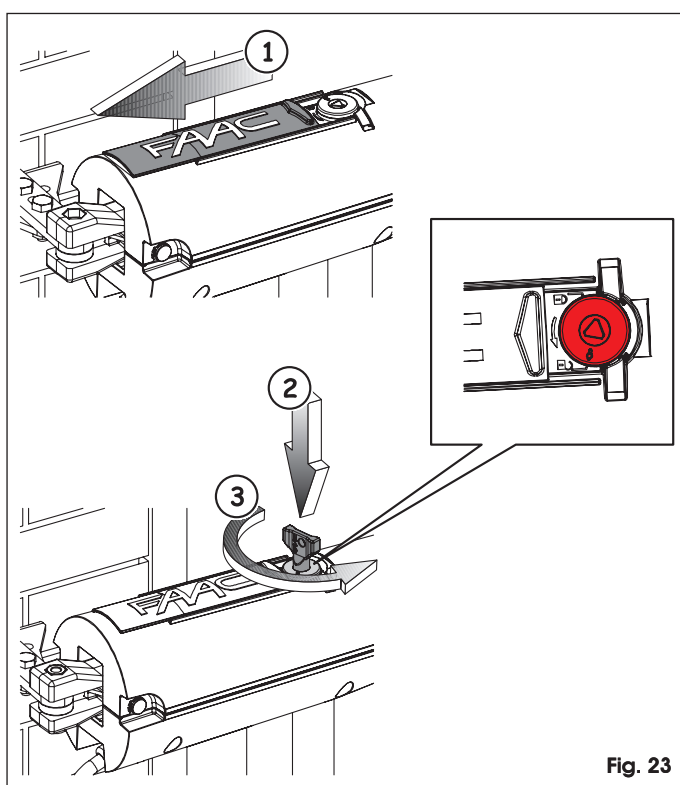

Fig. 23
2. Slide off the protective cap, figure 23 ref. ①.
3. Insert the release key supplied, figure 23 ref. ②, and turn it anticlockwise until it stops, figure 23 ref. ③. The release position is indicated by an open padlock.